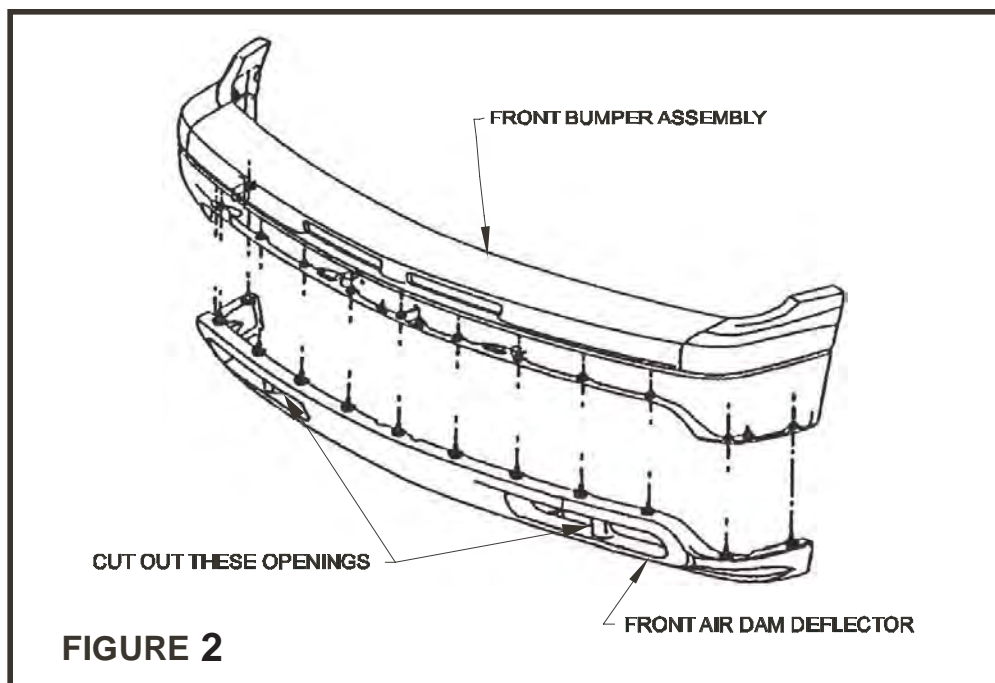

FIGURE 2
2. Determine passenger and driver brackets. From underneath vehicle, remove tow hooks. Slide brackets through end of frame and align holes in bottom of frame with the two nuts welded to the brackets. Attach brackets to frame rail with 1/2" fasteners as shown. **NOTE:** Use one spacer plate for large hole in bottom of frame as shown. Leave loose. **NOTE:** For vehicles without tow hooks a small opening may need to be cut out in the two inside indents of the airdam using a utility knife. **SEE FIGURE 2.**